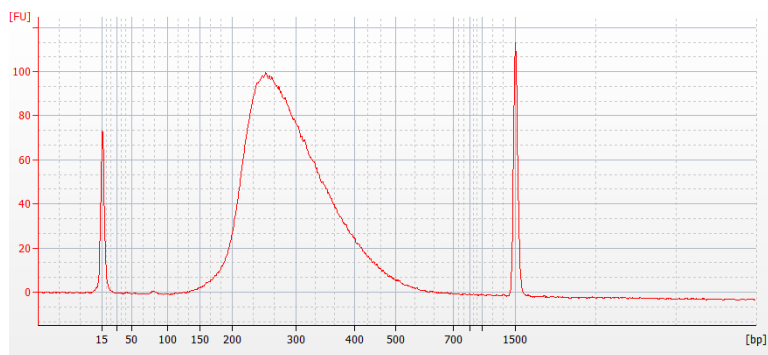

Figure 4 Analysis of amplified library DNA using a DNA 1000 Bioanalyzer assay.
- 3 Verify that the electropherogram shows a distribution with a DNA fragment size peak of approximately 225 to 275 bp. Determine the concentration of the library DNA by integrating under the peak. A sample electropherogram is shown in Figure 4.